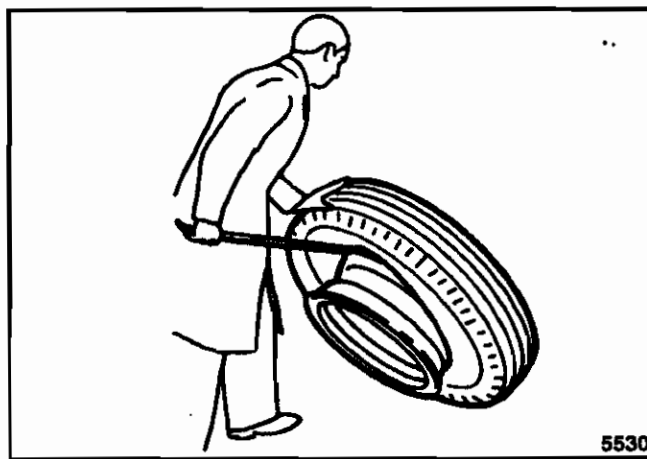

Figure 5. Prying Off the Second Bead
8. At the top of the assembly, insert the straight end of the tool between the bead and the back flange of the rim at about a 45 degree angle. Turn the tool so that it is perpendicular to rim. Pry the second bead off (Figure 5).